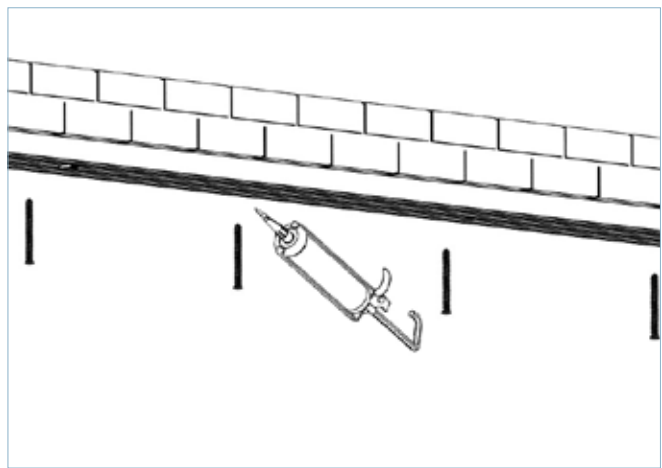

FIG 19
8. The top track can now be fully secured. Care should be taken to ensure it is not bowed or twisted and is level along the entire length (FIG 19)